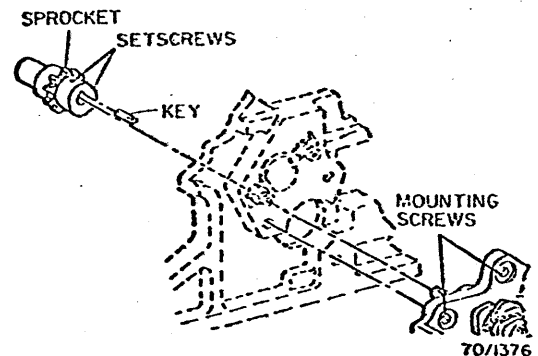

Fig. 3-13. Cycle Control Assembly
6. If necessary, loosen the sprocket assembly and key on the cycle control drive shaft (Fig. 3-13).